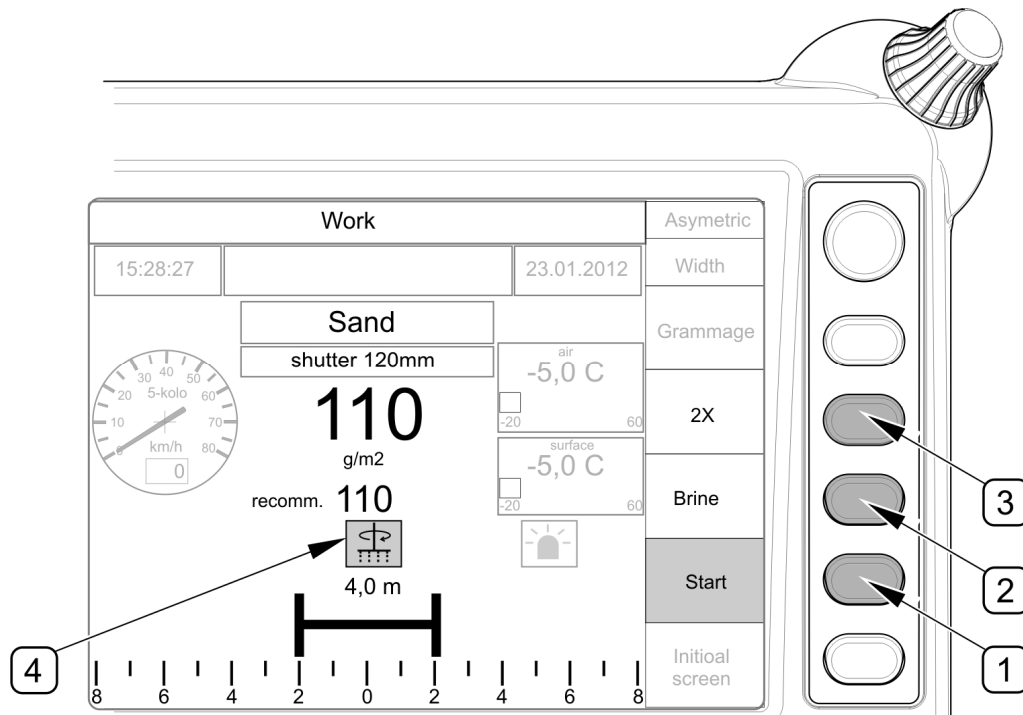

FIG. 4.30 Activation of spreading
(1) - spreading activation push-button; (2) - brine spraying activation push-button; (3) - double dose push-button; (4) - control icon of activated spreading
On control panel working page "OPERATION" (FIG. 4.30), activate spreading by means of push-button (1), "START" function will be highlighted. Activation of spreading disc drive and belt conveyor is signalled by control icon (4). Brine spraying is switched on and off by means of push-button (2) "BRINE". Push-button (3), marked „2X“, is used for momentary doubling of spreading material dose.